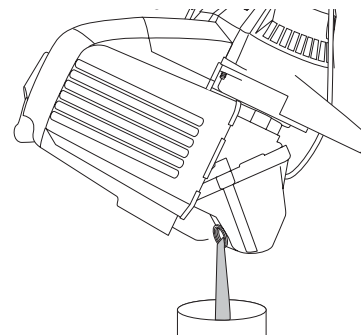

Fig. 17
3. Pour the oil out of the oil fill hole and into a container by tipping the unit to a vertical position (Fig. 17). Allow ample time for complete drainage.